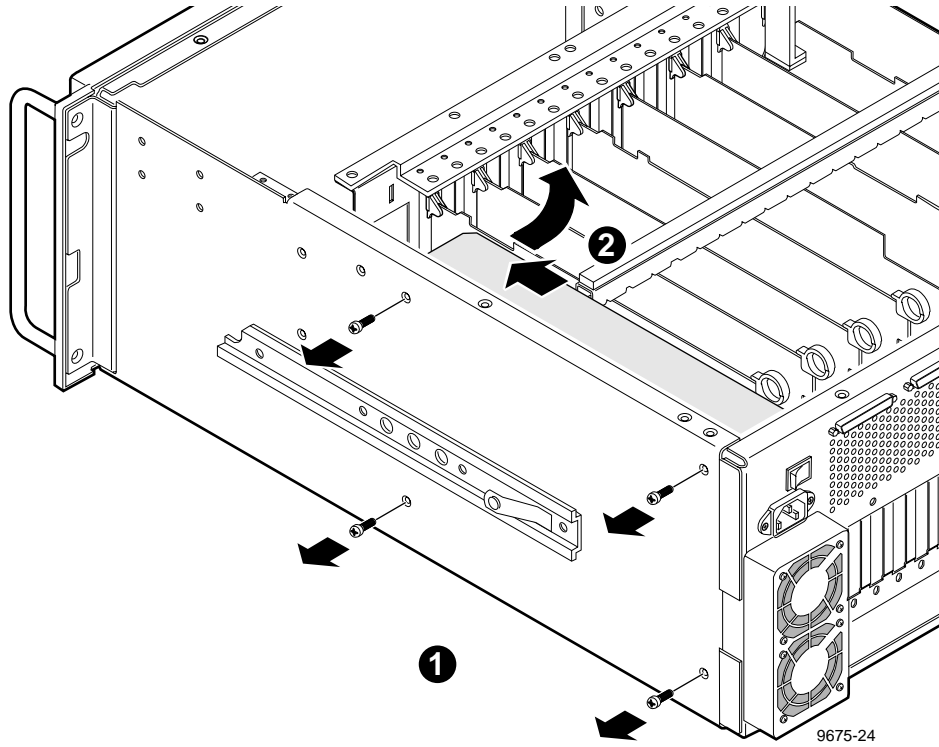

Figure 6-28. Removal of the Power Supply
13. Use the Torx tool with the T10 tip to remove the screws which secure the power supply to the right side of the chassis (1 in Figure 6-28).
14. Slide the power supply towards the front and center of the chassis to clear the rear panel switch and connector and right side chassis flange, and lift the power supply out of the chassis (2 in Figure 6-28).
2. Use the Torx tool with the T10 tip to attach the power supply to the side of the chassis with the screws previously removed (Figure 6-28, page 6-42).